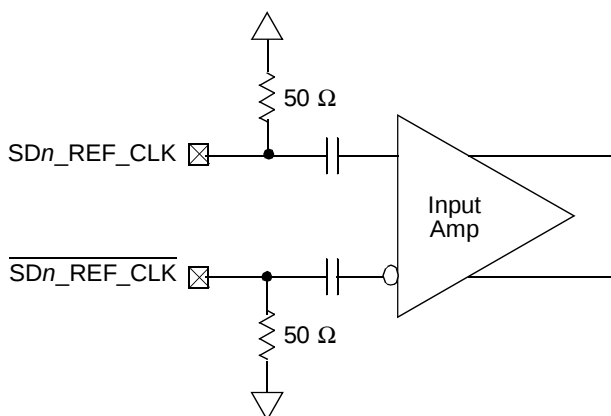

Figure 43. Receiver of SerDes Reference Clocks
- The SD_REF_CLK and $\overline{SD_REF_CLK}$ are internally AC-coupled differential inputs as shown in Figure 43. Each differential clock input (SD_REF_CLK or $\overline{SD_REF_CLK}$) has a 50- Ω termination to SGND_SRDS followed by on-chip AC-coupling.